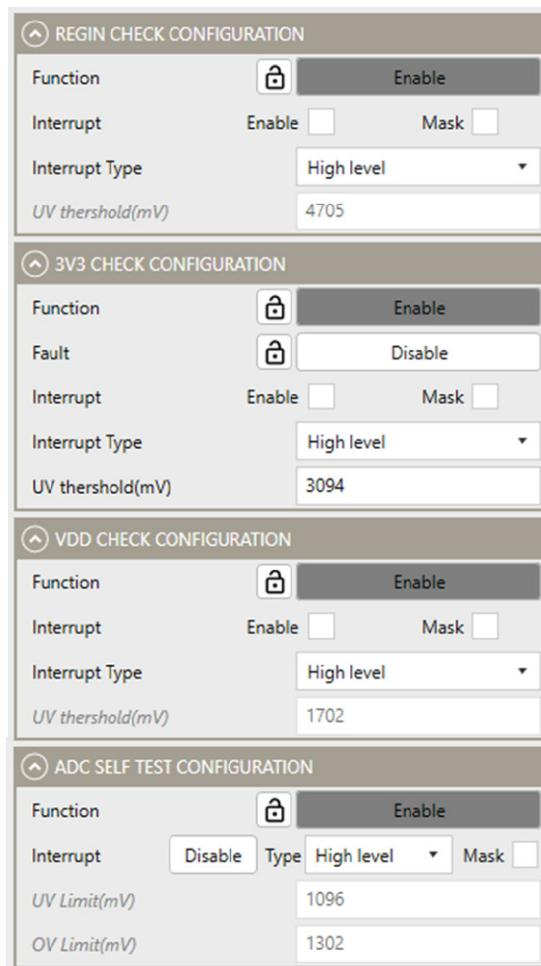

Figure 30: REGIN Check, 3V3 Check, VDD Check, and ADC Self-Test Configurations
22. Configure the REGIN Check, 3V3 Check, VDD Check, and ADC Self-Test parameters. Figure 30 shows the REGIN Check Configuration, 3V3 Check Configuration, VDD Check Configuration, and ADC Self-Test Configuration settings in the GUI.